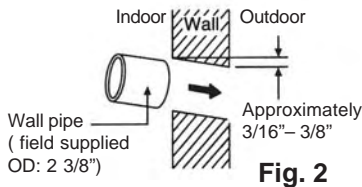

Fig. 2
3. Make a $2 \frac{9}{16}$ " hole through the wall. Hole should be angled down to the exterior. (See Fig. 2)
4. Use a city grade wall pipe (outer diameter : $2 \frac{3}{8}$ ") as a sleeve to protect the interconnection cable and the piping. (See Fig. 2)